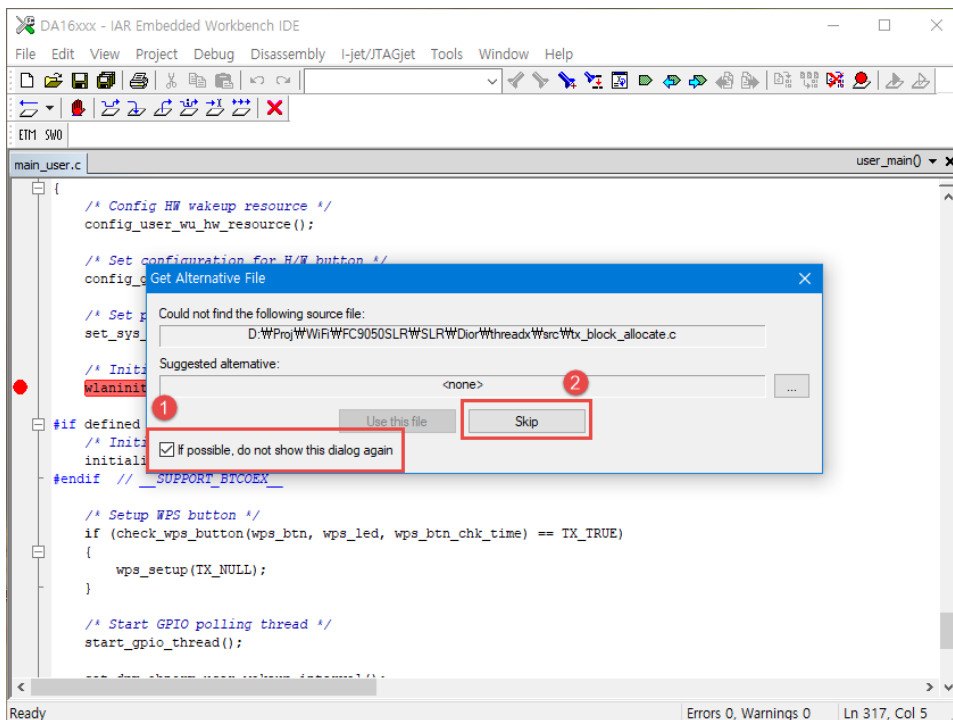

Figure 35: Dialog Box Message
- In the **Get Alternative File** dialog box, select the checkbox (1) and click the **Skip** button (2). See Figure 35.